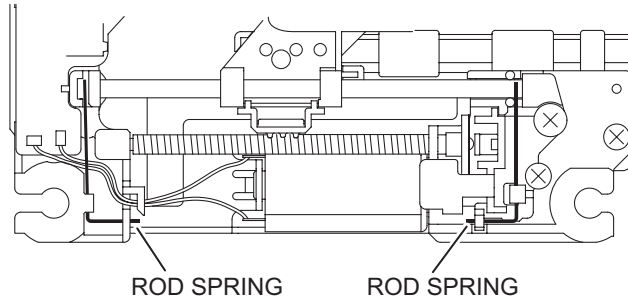

Fig.7
(See Fig.7 to 11)
- (1) Remove the two rod springs pressing the guide shaft. (See Fig.7)